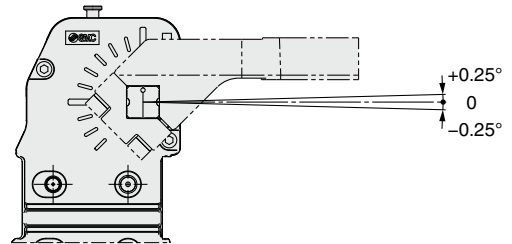

Figure 1
- 2) There is a mechanical difference of -0.25° to $+0.25^\circ$ at the clamping end as shown in Figure 1. Be sure to make adjustments externally using a shim. Refer to page 10.